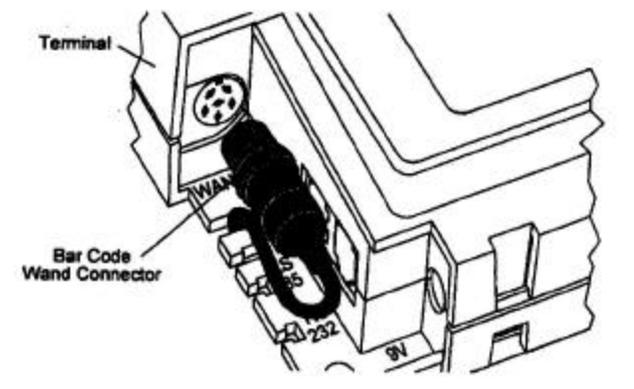

Figure 16: Bar Code Wand Connection
1. **Connect a bar code wand (#9) to the terminal (#3) per the diagram shown in Figure 16.**